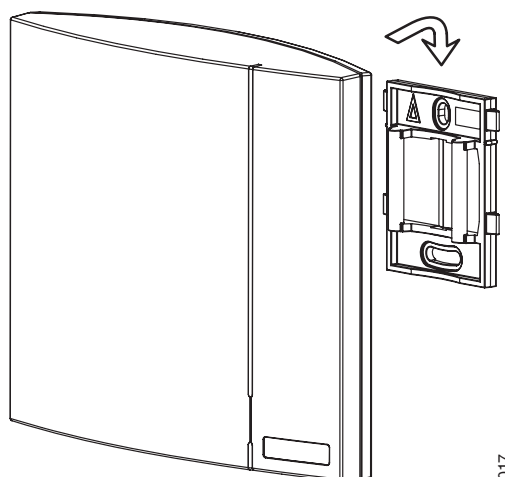

Figure 11. Mounting the base station
- 1 Hold the base station flat against the mounting bracket and move it downwards until it clicks, see figure 11.